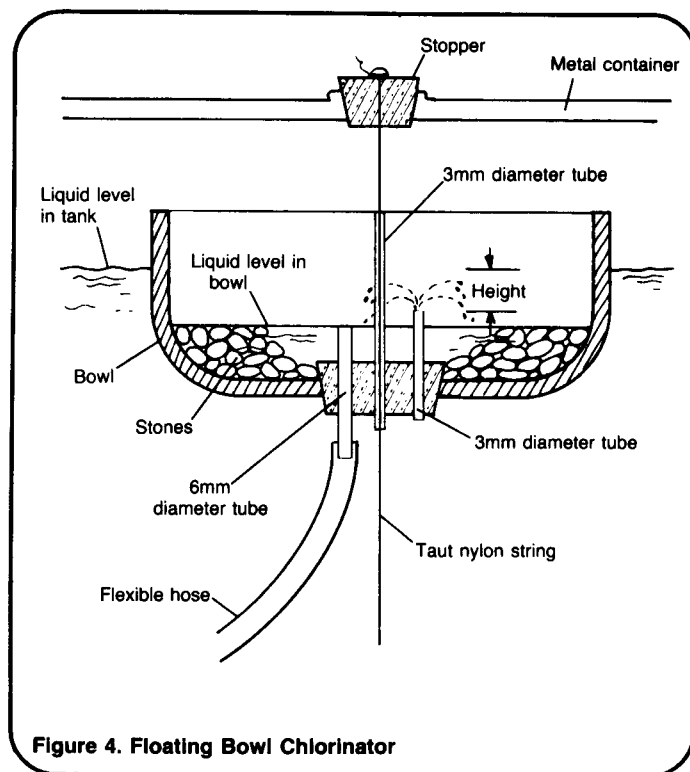

Figure 4. Floating Bowl Chlorinator
2. To feed the chlorine into the water supply, make a floating bowl like that shown in Figures 4 or 5. Use a wooden or plastic bowl or cut the bottom out of a plastic bottle to form a bowl and use it as a float.
the stopper. Use glass, copper, brass or hard plastic tubing. Use two 3mm and one 6-9mm diameter tubes. One 3mm tube should go through the center of the stopper and the other two tubes should be placed to either side of the center. The tube through the center which will carry the guide string shown in Figure 4 should extend to the top of the bowl. The other 3mm tube should reach just below the liquid level in the tank. The 6-9mm diameter tube should reach no higher than the top of the stopper or the layer of small stones used for weights.